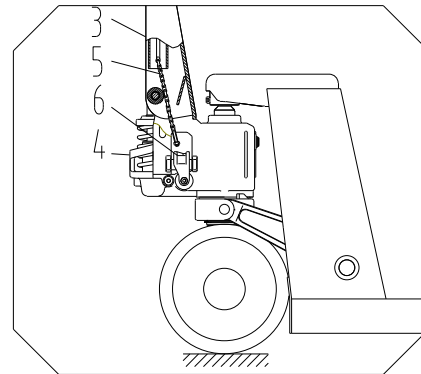
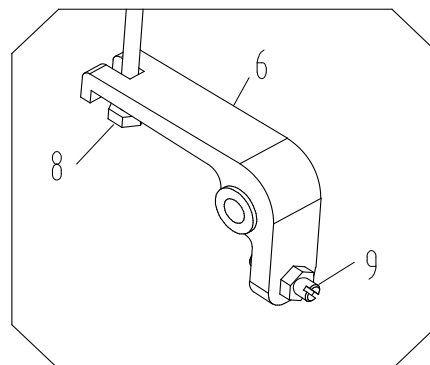

Fig.2
Fig.4
- 3.3 See fig 2. Put the chain 4 of hand grip get across the middle hole of pin roll 2.
- 3.4 Take screw nut which is at the end of chain 5 and hitch the groove of lever board 6. See fig 2 and fig 4.
- 4.2 The screw 9 in fig 4 is used to adjust the truck situation. When the truck body drops immediately after it is lifted, you should turn the screw 9 a little counter-clockwise. And then try the truck again until truck body could lift normally. If the truck body couldn't drop after it is lifted, you should turn the screw 9 a little clockwise. And then try to operate truck again until the truck body could drop normally. The external hexagon nut 10 at screw 9 plays the locking function in the truck. So you should undo the external hexagon nut 10 before adjustment. And screw down the nut 10 after you finish the adjustment.